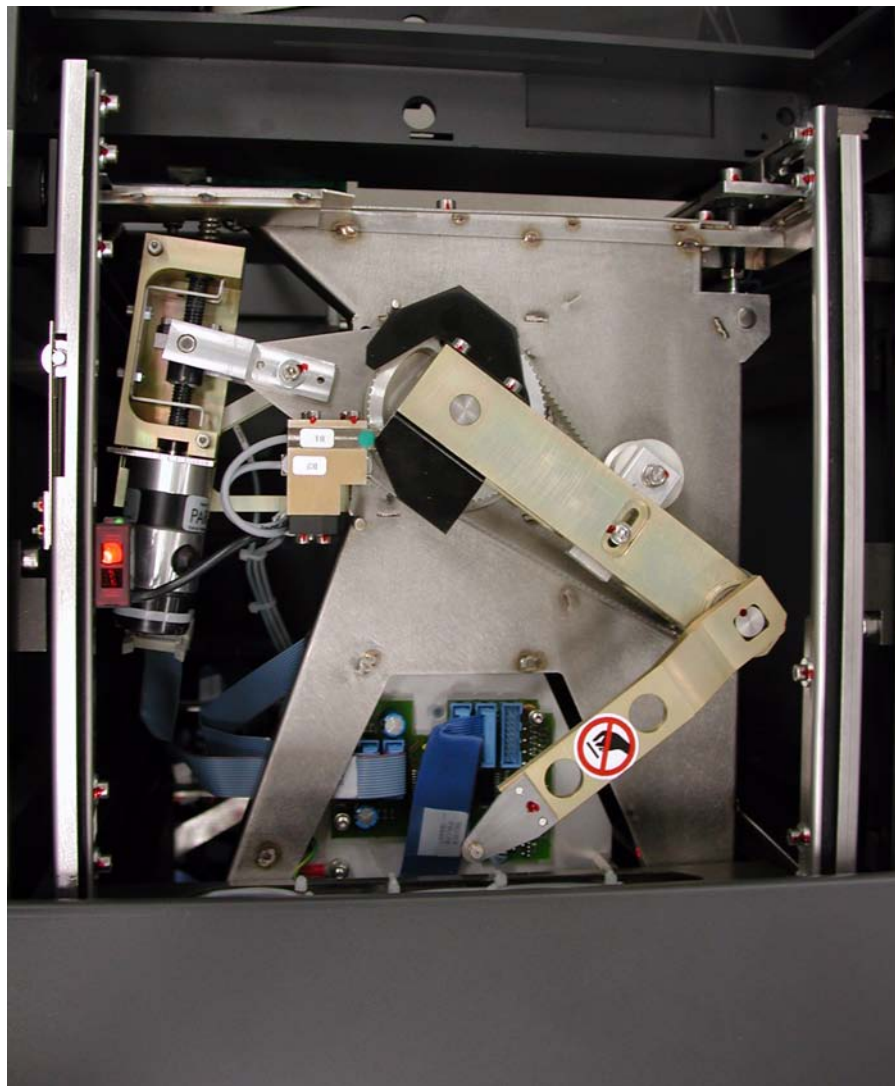

Figure 27 Lock spring adjustment
2. Measure the distance at 'D' (Figure 27) (to lock the carrier in the pick position the lock spring must be adjusted to  $149.4 \pm 0.2$  mm from the inner side of the frame with respect to the centre of the lock spring).